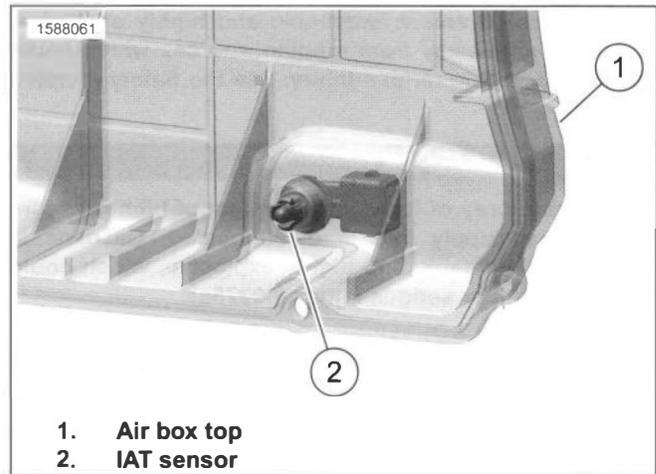

Figure 6-24. IAT Sensor
See Figure 6-24. From inside the air box top (1), compress the four tabs, remove IAT sensor (2).
See Figure 6-24. Install IAT sensor (2) into air box top (1).